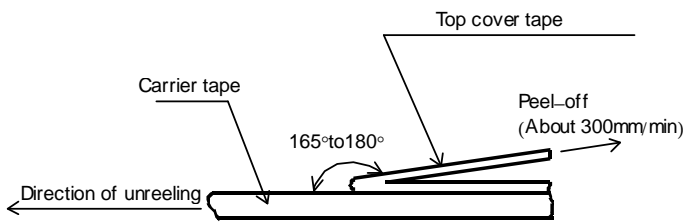
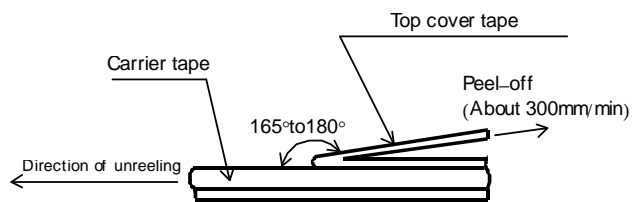

Figure-8
Figure-9
- 5). The peel strength of the top cover tape shall be with in 0.1N to 0.5N on the test method as shown in the following RNC06: Figure-8, RNC20, 32: Figure-9.